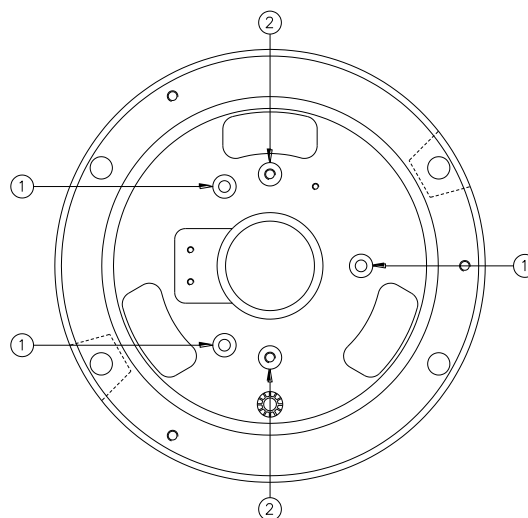

Figure 19 – Removing the Aluminium Ring
- unscrew the three screws HSCH M5x16 (Figure 19- n° 1) and remove the aluminium ring using two of them into the proper extraction-holes (Figure 19 - n° 2)